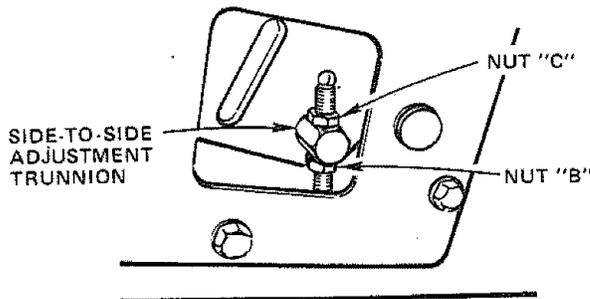

FIGURE 33
- If distance "A" needs to be changed, snap out access hole cover on L.H. side above footrest. Use 9/16" wrench on nuts "B" and "C" at side-to-side adjustment trunnion (Fig. 33).